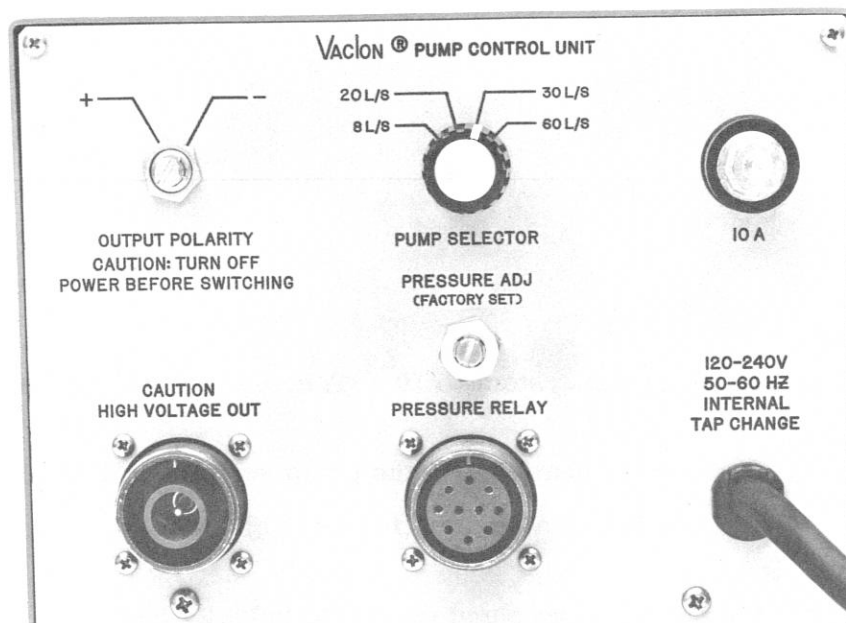

Figure 5. Pump Control Unit, Rear View
1. On the rear panel check the pump selector switch in correct position for size of pump in use (Figure 5).